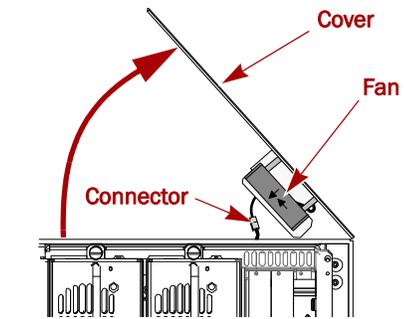

Figure 2. Fan Cover Assembly Removal
- b. Lift the inside edge of the **Fan Cover assembly** and disconnect the cooling fan connector (**Figure 2**).